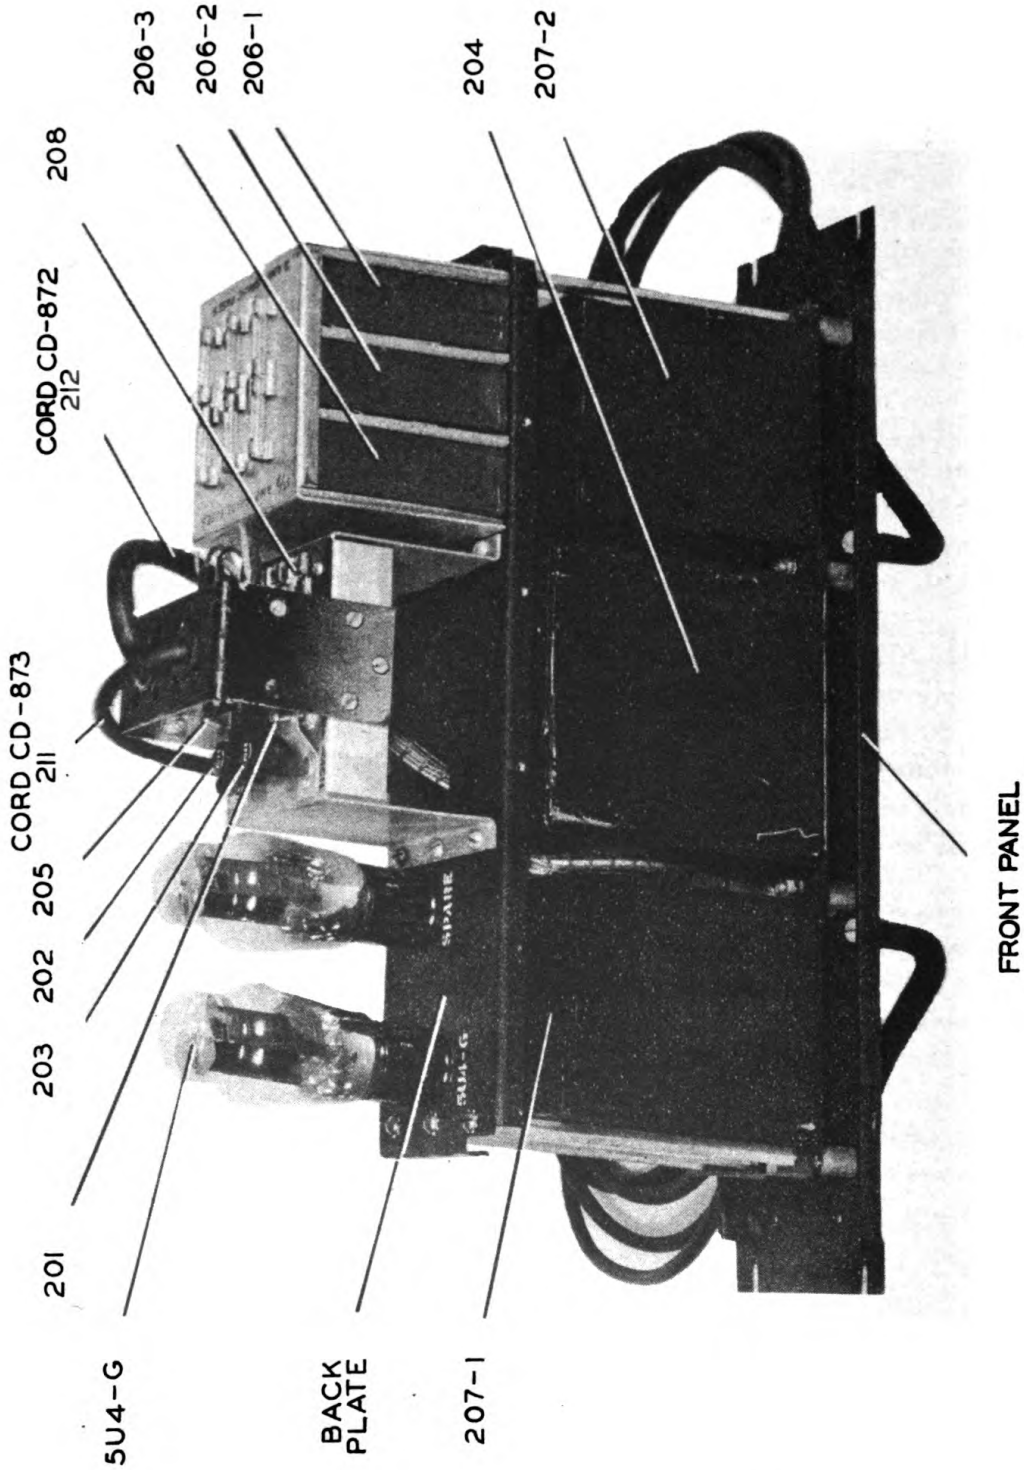

Figure 10. Power Supply Unit RA-61-A, interior view
a. **Filter capacitors.**—(1) To remove the filter capacitors, first loosen the **BACK PLATE** (see figure 10) from the three posts on each side of the power unit to which the plate is mounted. Take out the six screws and it will be free. Take the wires off of the capacitor by unscrewing the nuts and lifting the wires from it. Remove the four screws from the bracket that holds the three capacitors in place. Lift the bracket off. **BE CAREFUL** not to break any fuses. Now pull the capacitor out.
(2) Put the new capacitor in its proper place; set the capacitors in the retaining bracket and screw the bracket on to the **BACK PLATE**. Use the lockwashers. **BE SURE** to put the cardboard spacers between the capacitors and on the ends. Put the wires on the screws of the capacitor, put on the nuts and tighten them. Screw the **BACK PLATE** on to the posts (use lockwashers). Put the case back on.
b. **Choke coils.**—(1) Take out the six screws and spacers that hold the **FRONT PANEL** (figure 10) to the posts. Take out the top screw and nut which hold the choke to the panel. Lay a small flat board or other strong material (bottom chassis plate if available) across the back part of the power unit. Now turn the front section over on top of the board. Take out the other two screws which hold the choke to the **FRONT PANEL**. Unsolder the wires and take the choke out.